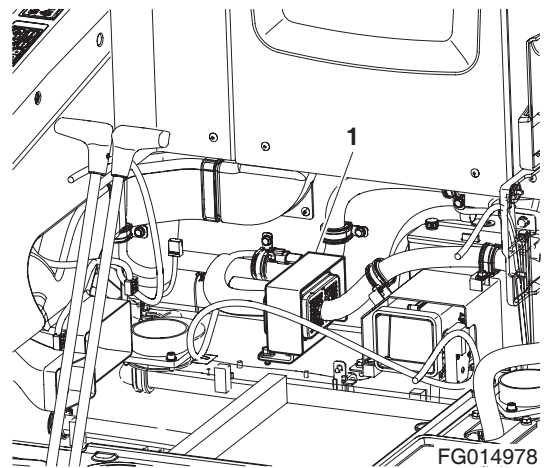

Figure 3
14. Disconnect the cabin main harness connector (1, Figure 3) and remove harness connection mounting bracket from floor.